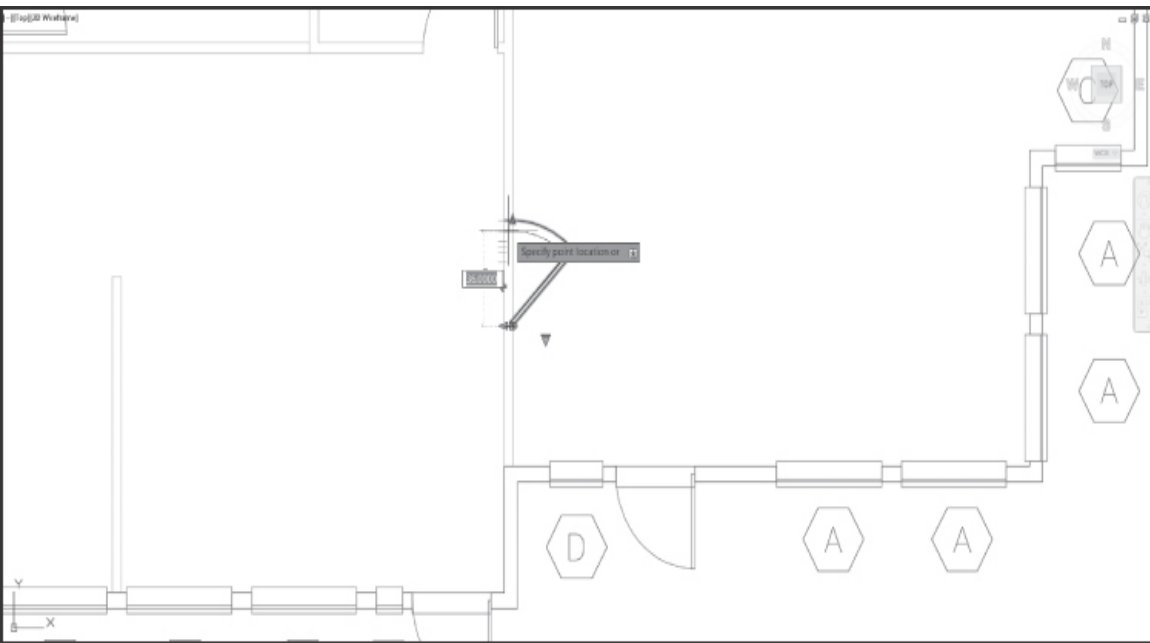

Figure 16-70
Using the **Stretch Arrow** grip, you can resize the door to any predefined opening size (24", 28", 30", 32", 36", or 40") as shown in Figure 16-70.
- 5 Select the vertical **Stretch Arrow** grip, and stretch the door so that the door opening is 36" wide as shown in Figure 16-70.